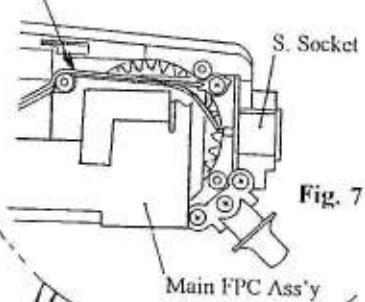

Fig. 7
- ① Portion below Grip ----- If this portion is not bent once along an appropriate line beforehand so that a crease is left, it will bend along the edge of the cover lay, thus the Main FPC will become apt to break.
- ② Portion to be solder-jointed with Exp. Compensation Dial P.C. Board ----- This portion to be bent is relatively hard. If this portion is not bent once beforehand so that a crease is left, it is hard to install and thus the area around the bend tends to float . Be sure to bend this portion once beforehand to ensure efficient installation.
- ③ Accessory Shoe area----- Bend this portion when installing the Main FPC Ass'y around the Penta Prism. Bend it beforehand for easy installation.
- ④ Portion around Penta Prism ----- The Main FPC has been folded double in this portion to be bent and thus this portion is relatively hard. If this portion is not bent once beforehand so that a crease is left, the installed Main FPC swells and comes in contact with the ABC Click Ass'y located inside the Top Cover Ass'y.
- b) When installing the Shutter Dial P.C. Board Ass'y, dress the Brown lead wire (from S. Socket) and the Black lead wire (from Conduction Auxiliary Plate for S. Socket) as shown in Fig. 7.